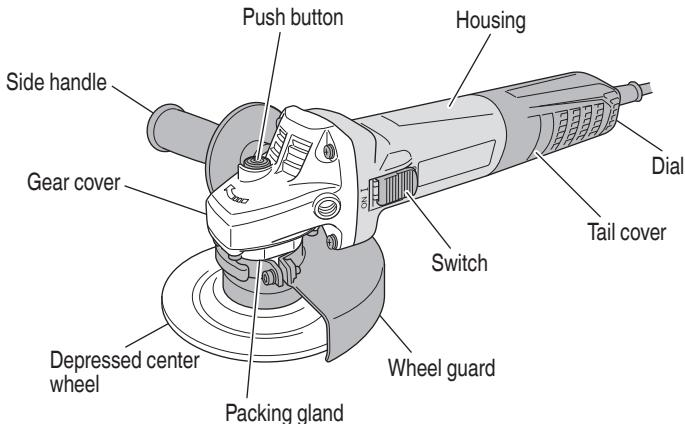

Fig. 1
- Hold the grinder firmly by its housing and side handle (Fig. 1). The grinder produces a counterforce which must be controlled by firmly holding onto the grinder.